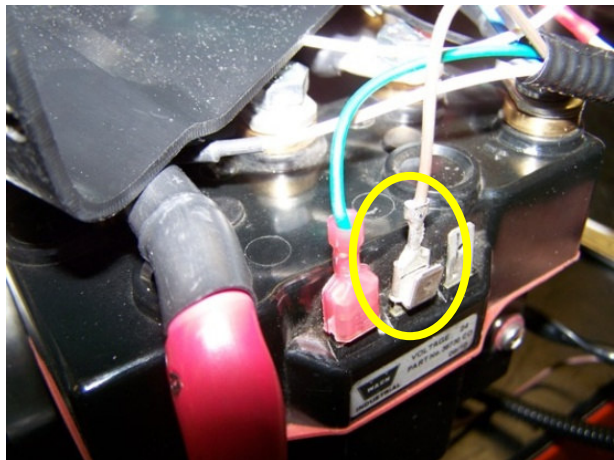

Figure 23
Step 21: Connect the brown wire from the OLI harness to the contactor terminal 2. (Figure 23)